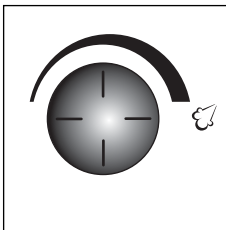

fig. 6
- Adjust the steam strength by using the steam emission knob (fig.6).